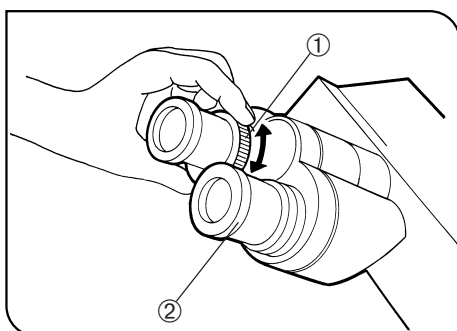

Fig. 19
### 2 Adjusting the Diopter (Figs. 19 & 20)
2. Looking through an eyepiece sleeve with the diopter adjustment ring ① turn only the ring to focus on the specimen. (Fig. 19)
1. Looking through the right eyepiece with your right eye, turn the top of the eyepiece ② until a clearly defined double crosslines can be seen in the field of view. (Figs. 19 & 20)
3. Looking through the left eyepiece with your left eye, turn the diopter adjustment ring ① to focus on the specimen.